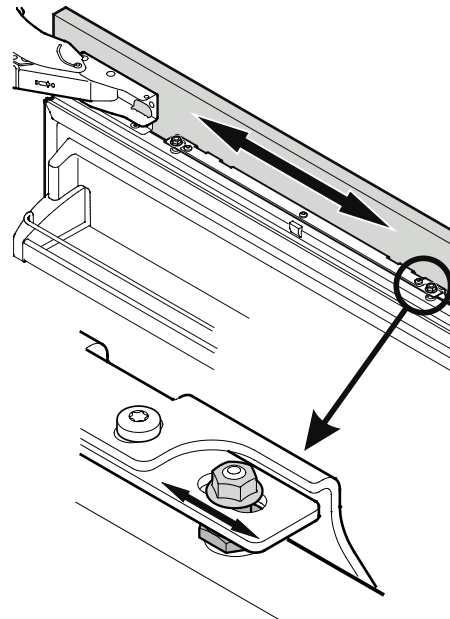

Figure 33
6. Align the panel horizontally (with the long holes in the attachment bracket) (**Figure 33**).